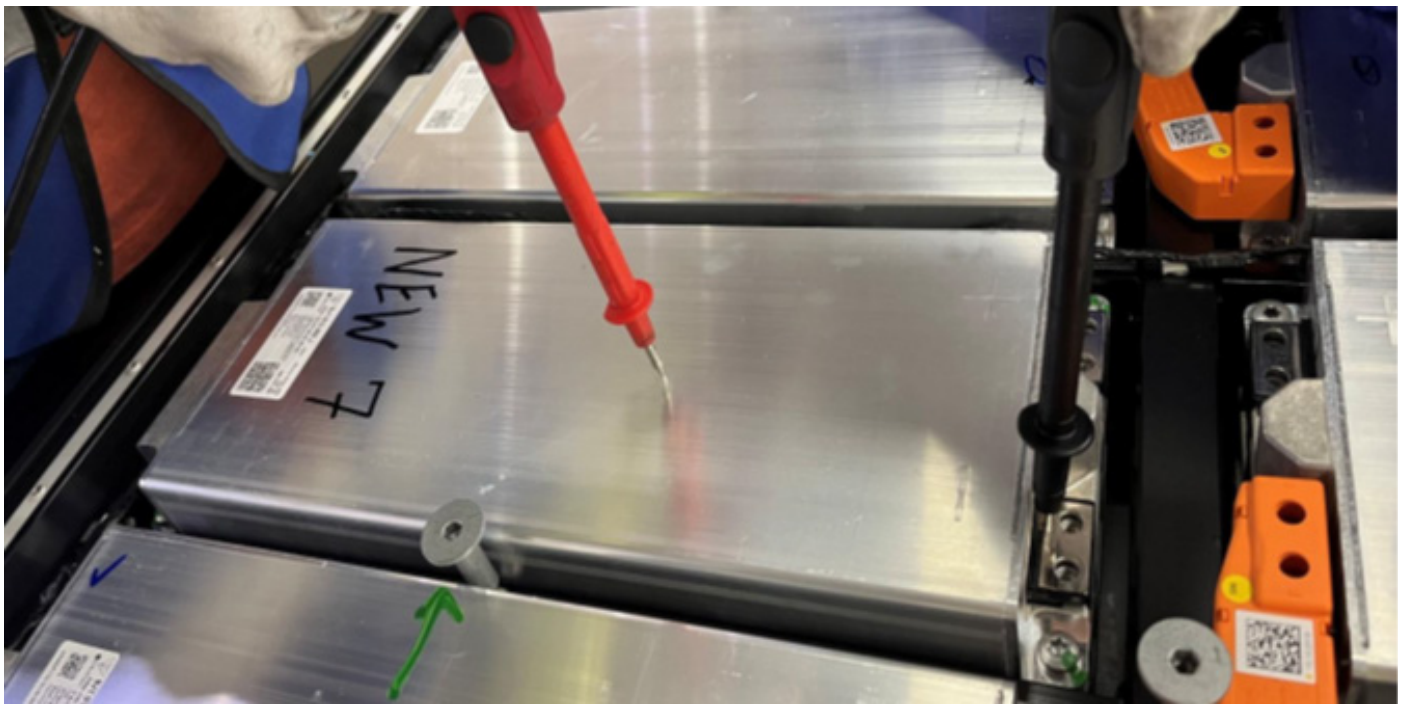

Figure 4 - IR Test at Negative Terminal
- When IR testing a module on the negative terminal: Contact the negative terminal with the black test probe as shown in Figure 4.
Module IR Testing Procedure: Negative Terminal (Figure 4)